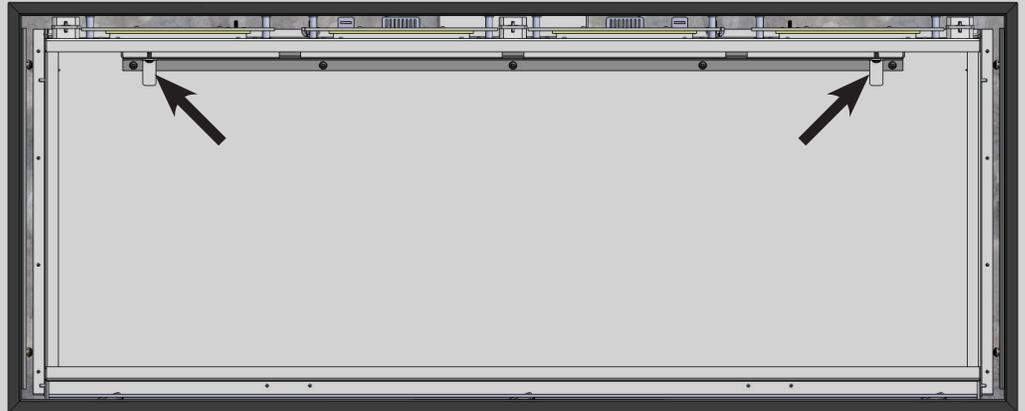

Fig. 43
4. Back off the two screws holding the rear glass clips, slide the clips out of the key hole and set aside. (Fig. 43)